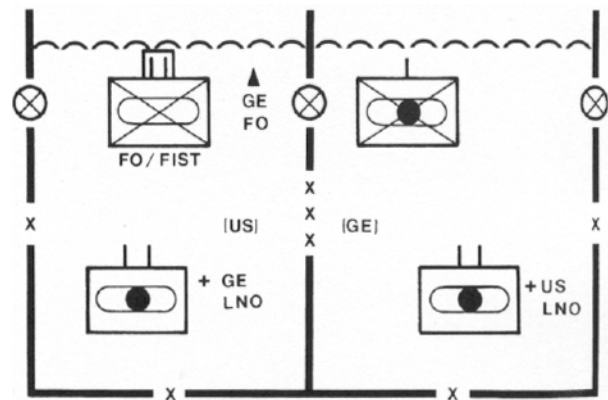

Figure 1. The common boundary scenario.
- **Situation 1:** An enemy tank platoon moved from the US area of responsibility (the western sector in figure 1) into the German area of responsibility in the eastern sector. The forward observer for the US mechanized heavy task force on the extreme right of the US brigade sent a request to his direct support battalion FDC to neutralize the group of tanks. Liaison teams had previously been exchanged and were in position with their host battalion's tactical operations center, and so the direct support battalion S3 had two ways to coordinate the target attack with the flank German battalion. He could transmit his request for fire support coordination either through